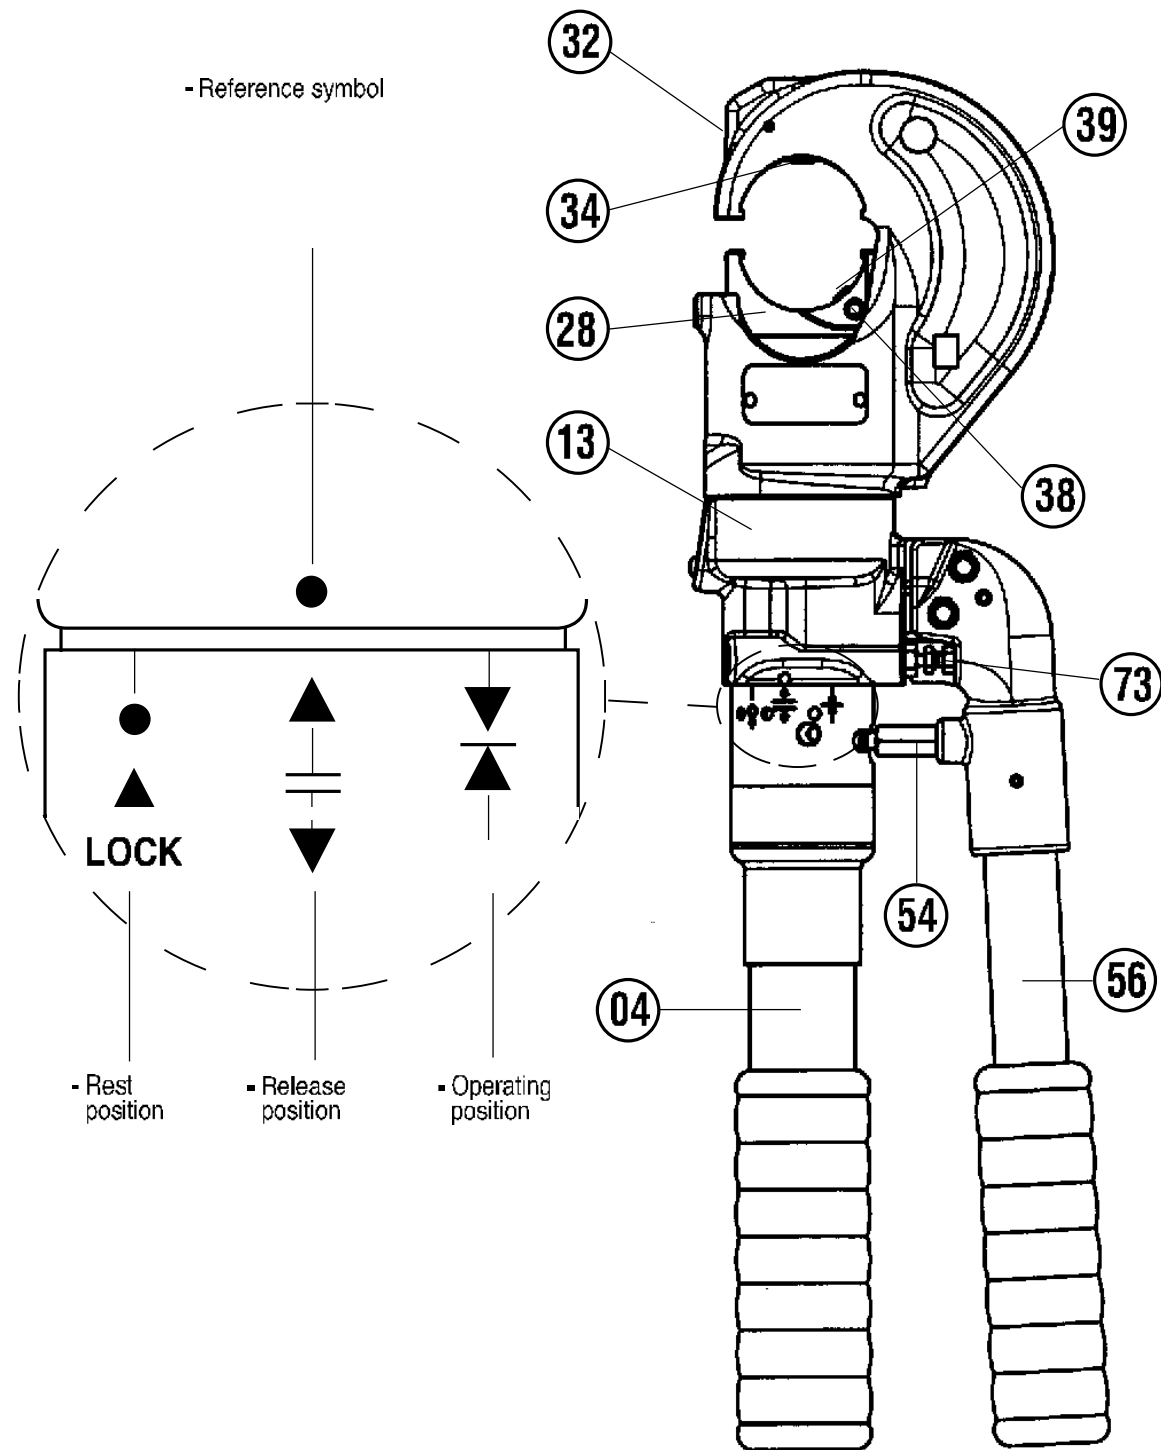

FIG. 1 OVERALL VIEW
- **Operating positions.** The three operating positions are identified on the main handle, which rotates relative to the reference symbol,  (see Fig. 1).
**Release position:** close the moveable handle (56) against the main handle (04), in order to discharge the oil pressure and retract the dies.
**Operating position:** operate the moveable handle (56), to build up pressure and close the dies.
## 2. INSTRUCTIONS FOR USE (Ref. to Fig. 1 and 2)